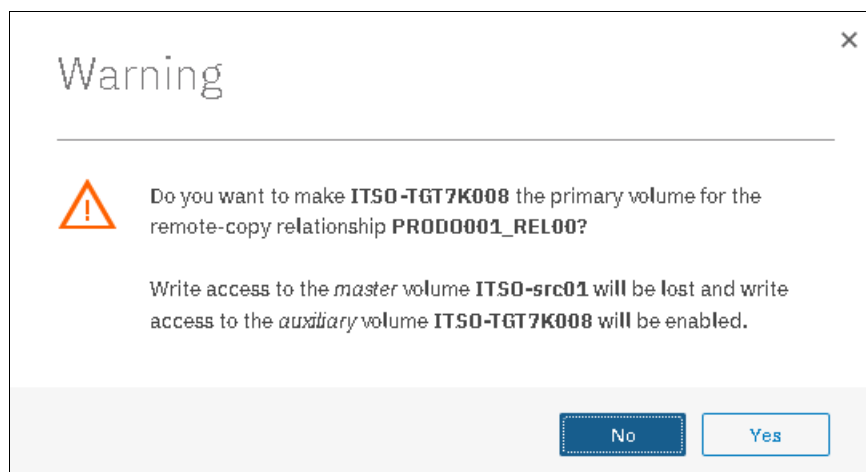

Figure 10-112 Warning window
4. The Warning window that is shown in Figure 10-112 opens. The remote copy is switched from the master volume to the auxiliary volume. Click **Yes**.